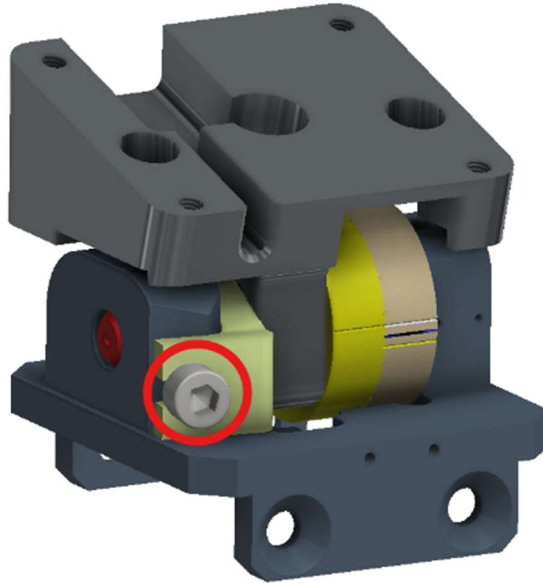

Figure 6-10. Remove the Adjustment Wedge (474-3052) from the Neck Posture Adjustment Assembly (474-3050)
- 6.2.3 Remove the Adjustment Wedge (474-3052) from the Neck Posture Adjustment Assembly (474-3050) by removing one Modified M6 X 1 X 12 LG. SHCS (Figure 6-10).